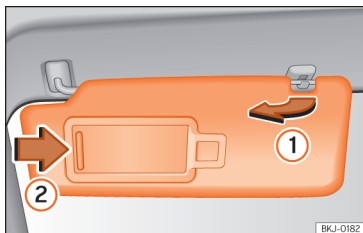

Fig. 102 Sun visor on the driver side.
- The sun visor can be pulled out of its mounting and turned towards the door »» Fig. 102 ①.